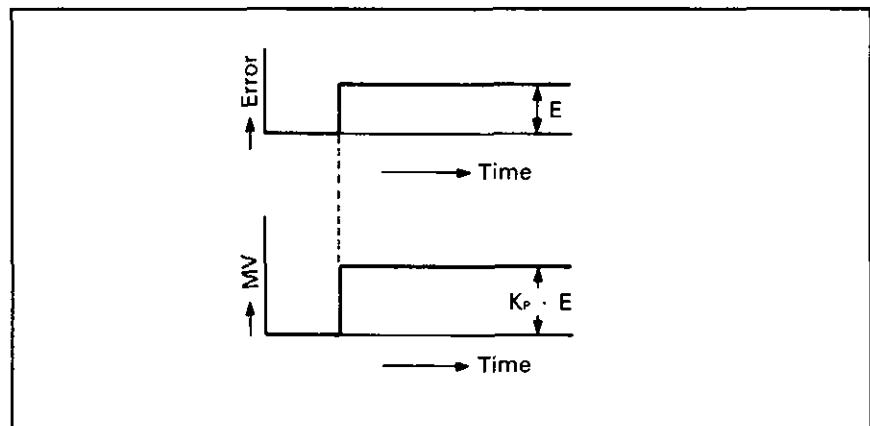

Fig. 1.5 Proportional Control Action Where Error Is Constant
- (3) Fig. 1.5 illustrates a proportional control action where the error is constant.